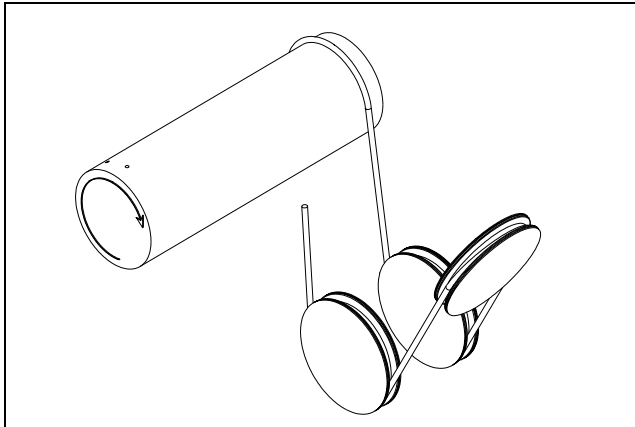

FIGURE 5-6. Reeving Diagram – 4 Part Single-Reeved. (Note: Arrow on Drum Indicates Direction of Drum when Lowering.)
- b) Before removing the old rope, refer to reeving diagram, Figure 5-6. To assist with re-reeving your hoist, refer to the reeving diagram and corresponding paragraph that describes the reeving procedure.
- (7) With outer lower block covers removed, thread the wire rope through the sheaves of the upper and lower block as shown in Figure 5-6.
- (8) Attach swaged rope end to the dead end anchor pin fastening cotter pins or retaining rings as required.
- (9) Replace the lower block sheave covers.